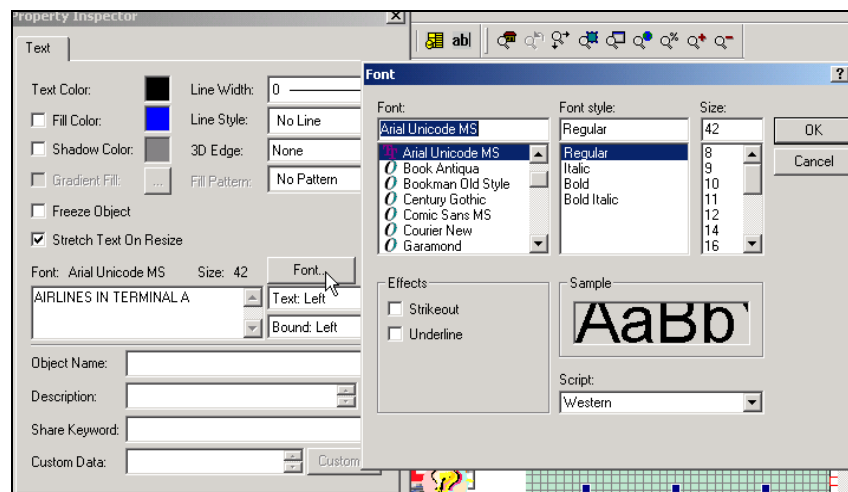

Figure 5.24
- 7 On **Layer 1** we will add a text field that lists the airlines that fly out of **Terminal A**. To do this, select the text icon  from the **Draw** toolbar. To the left of the terminal picture place the text field and type **AIRLINES IN TERMINAL A**. After typing this, double-click on the text to bring up the **Properties Inspector** to change to **Font Size** to **42**, as shown in **Figure 5.24**.